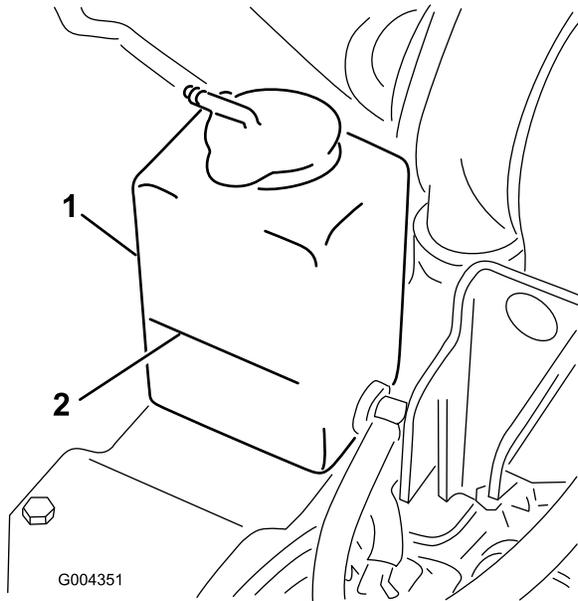

Figure 14
1. Check the level of coolant in the expansion tank (Figure 14).